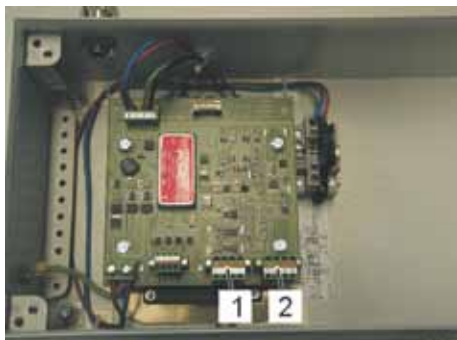

Fig. 72: Connectors X3 and X4
- n Bus cable from Terminal box on the left to X3 (Fig. 72/1)
- n Bus cable from Terminal box on the right to X4 (Fig. 72/2)